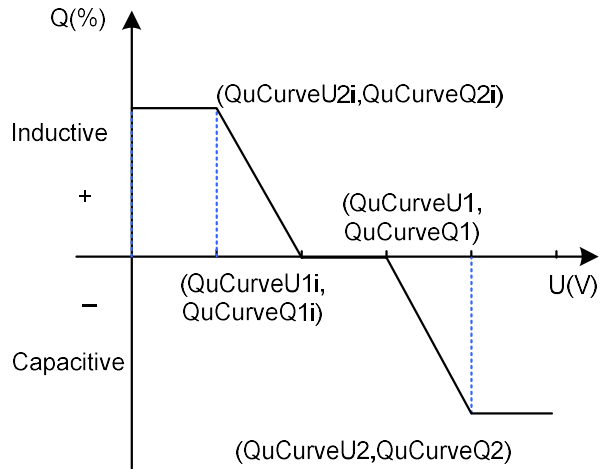

Figure 5-17 Q(U) Curve Mode
- (3) **Q(U) Curve:** Q(U) curve mode. The reactive compensation changes according to the grid voltage change, as shown in Figure 5-17.